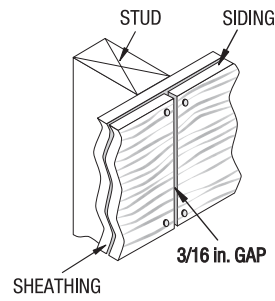

Figure 2
- All lap products require that the butt joints be located on the studs and nailed at the joints (see Fig. 2).
- Leave 3/16 in. gap around all doors, window frames and corners. Seal all gaps (see Fig. 2 and 3).
- Leave 3/16 in. gap at all butt joints (see Fig. 2).